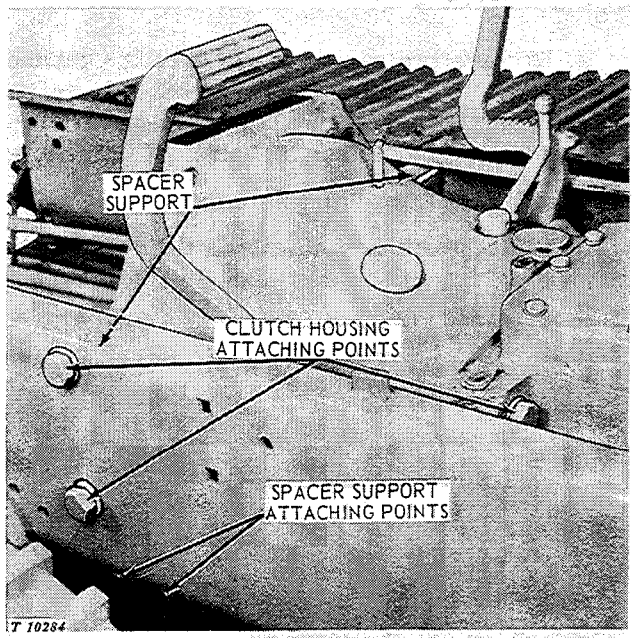

Fig. 20-10-3-Clutch Housing Attaching Points
18. With the aid of a hoist, remove clutch housing by sliding forward off transmission dowels and input shaft (Fig. 20-10-3). Be careful not to allow clutch throw-out bearing and carrier to fall out.